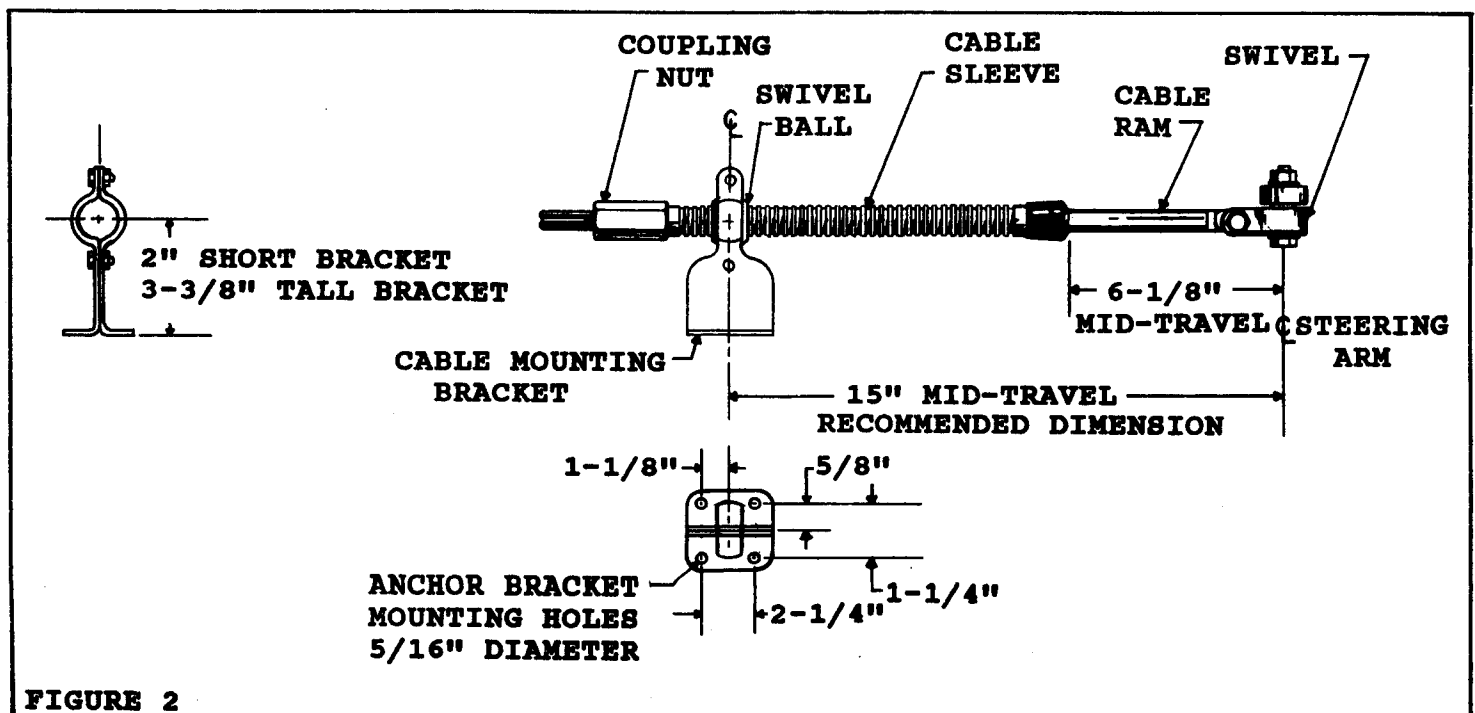

FIGURE 2
4.1 Set the Steering Arm in the STRAIGHT AHEAD position and set the Steering Cable Ram at 6-1/8 inches Mid-Travel dimension, as shown in Figure 2. This will locate the Transom Bracket the proper distance from the Steering Arm.